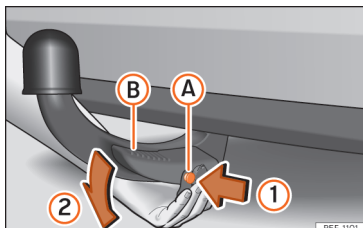

Fig. 178 Removing the tow hook
- Press the release bolt **A** in the direction of arrow **1**, and at the same time press lever **B** as far as it will go in the direction of arrow **2** »» Fig. 178.